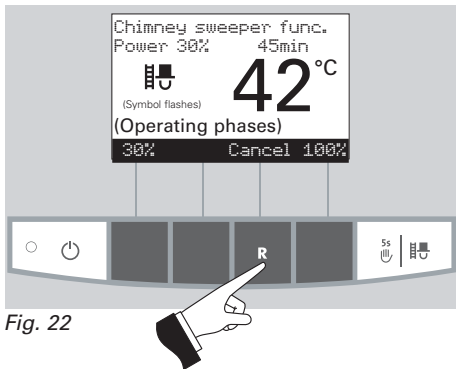

Fig. 22
Pressing the *Cancel* button or *Manual operation / chimney sweep* function button terminates the function – Fig. 22. The boiler returns to automatic operation.
- when the *Cancel* button is pressed – Fig. 22.